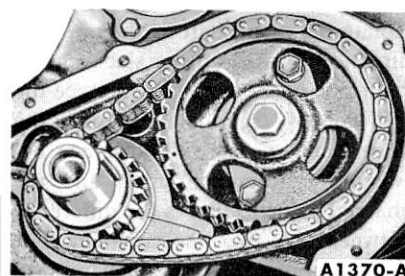
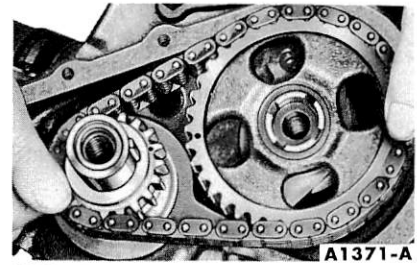

FIG. 21—Aligning Timing Marks
FIG. 22—Timing Chain and Sprockets Removal
3. Remove the cylinder front cover and gasket (the crankcase ventilation tube bracket is retained by one cylinder front cover bolt). Remove the crankshaft front oil slinger. Crank the engine until the timing marks are aligned as shown in Fig. 21. Remove the camshaft sprocket retaining bolt and washer. Slide both sprockets and timing chain forward and remove them as an assembly (Fig. 22).
1. Position the sprockets and timing chain on the camshaft and crankshaft. Be sure the timing marks on the sprockets and chain are positioned as shown in Fig. 21. Install the camshaft sprocket cap screw and washer. Install the crankshaft front oil slinger.